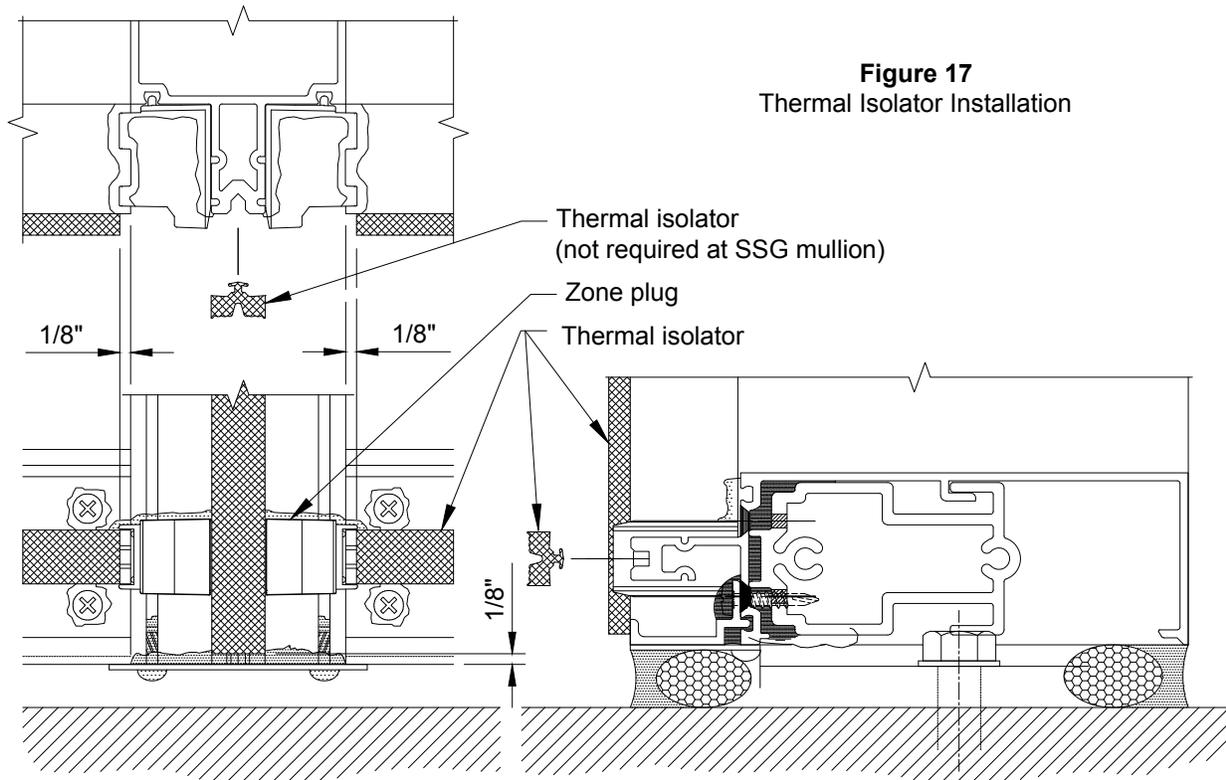

Figure 17
- 3.2 Install thermal spacer into groove on face of mullion tongues. Run through at vertical splice joints. Cut short 1/8" from each end of the mullion. **See FIGURE 17.**